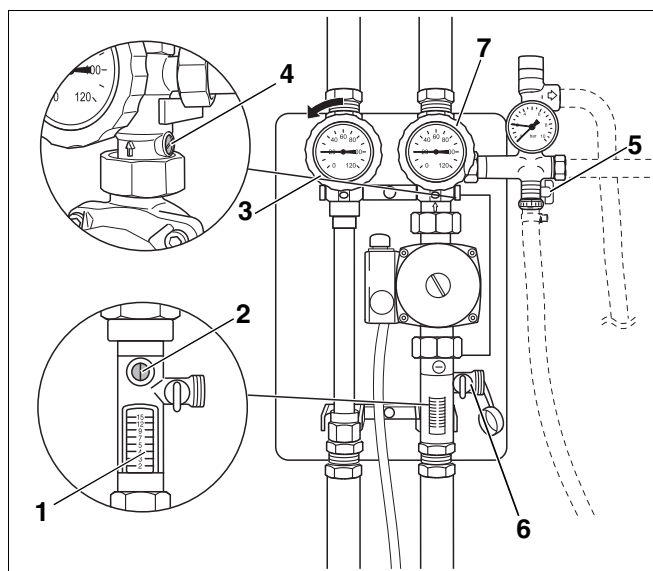

Fig. 13 Preparing for flushing and filling
- ▶ Connect the flushing pipes to the fill & drain valve for the safety assembly (Fig. 13, **Item 5**) and to the fill & drain valve on the flow limiter (Fig. 13, **Item 6**).
- ▶ Turn the slot of the adjusting screw (Fig. 13, **Item 4**) in the return vertically to open the non-flow valve.
- ▶ Turn the left ball valve with integral thermometer in the flow (Fig. 13, **Item 3**) in the direction indicated by the arrow (to a 45° position) to open the non-flow valve.
- ▶ Make sure that the right ball valve with integral thermometer in the return (Fig. 13, **Item 7**) is open. The dot on the thermometer must be at the top.
- ▶ Turn the slot of the adjusting screw (Fig. 13, **Item 2**) in the return vertically to open the flow limiter (Fig. 13, **Item 1**).
- ▶ After flushing the circulation pump briefly, close the right hand ball valve with integral thermometer in the return (Fig. 13, **Item 7**, page 18) in order to flush the pipework in the circulation pump's direction of flow.
- ▶ Close the fill & drain valve on the flow limiter (Fig. 13, **Item 6**, page 18) and open the ball valve with integral thermometer in the return (Fig. 13, **Item 7**, page 18). The dot on the thermometer must be at the top.